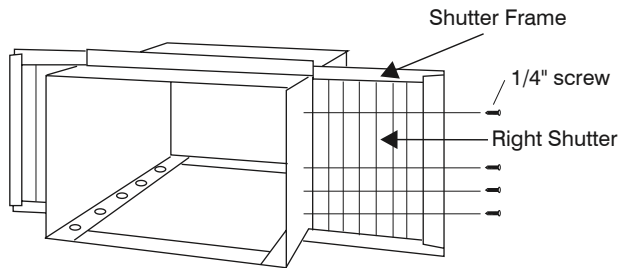

Fig. 9 – Shutter Assembly
A. Slide the shutters into the top and bottom channels as shown in Fig. 9. The shutters are identified (on each frame) as "left" & "right". Attach the shutters to the cabinet using (4) 1/4" screws on each side.